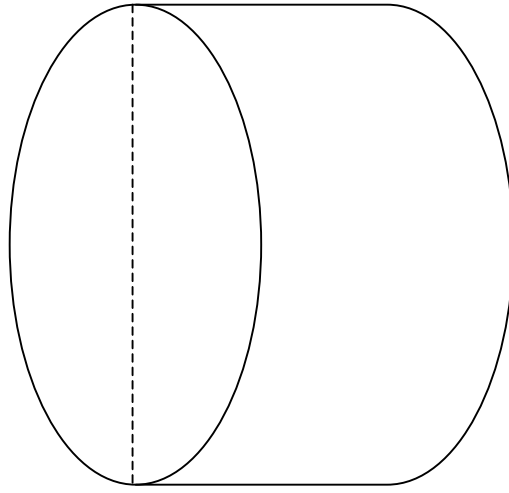

Figure 5: Disk of Lucite (or other plastic) with dashed line to show cut.
3. **If you are using a cylinder, make an additional straight cut through the center of the disk from step 2 (dashed line in Figure 5).**